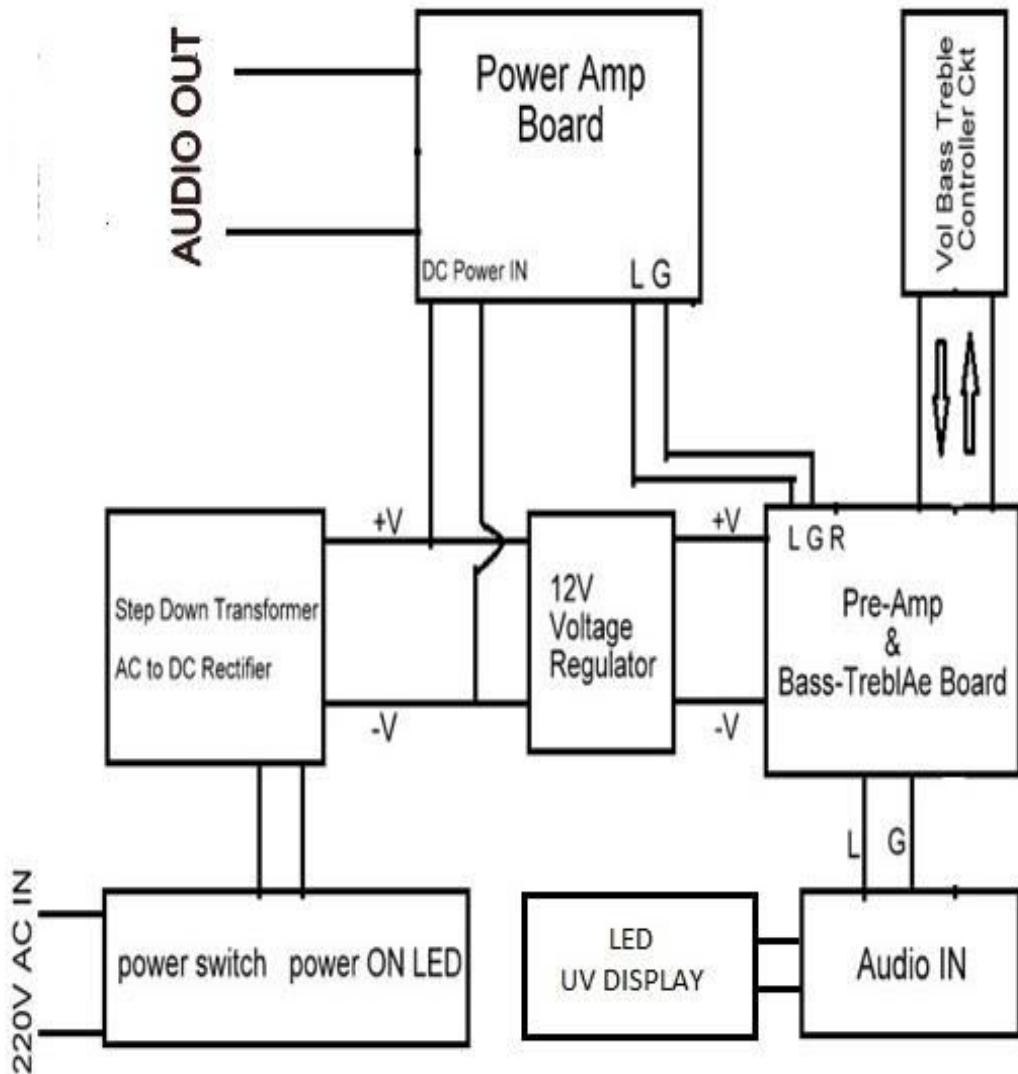

Fig 1.5
| Fig 1.5 | 100 watt RMS Class (AB) Power Amplifier | 8 |